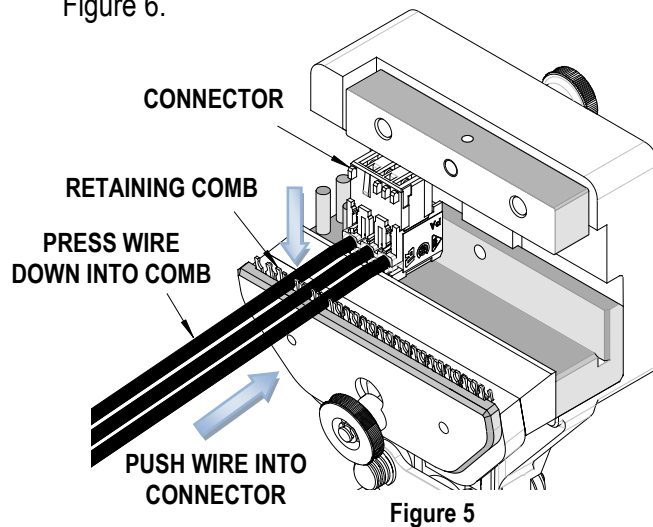

Figure 5
5. To keep the wire in place, press it into the retaining comb on the front of the tool. See Figure 5.